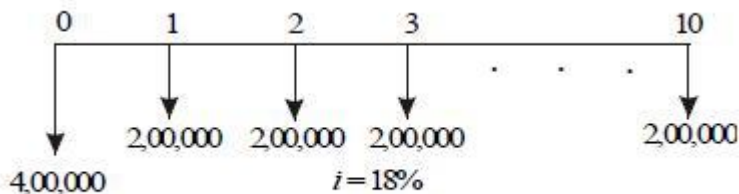

Fig. 4.10 Cash flow diagram for the second alternative.
**Present worth calculation of the second alternative.** The cash flow diagram of this second alternative is shown in Fig. 4.10.